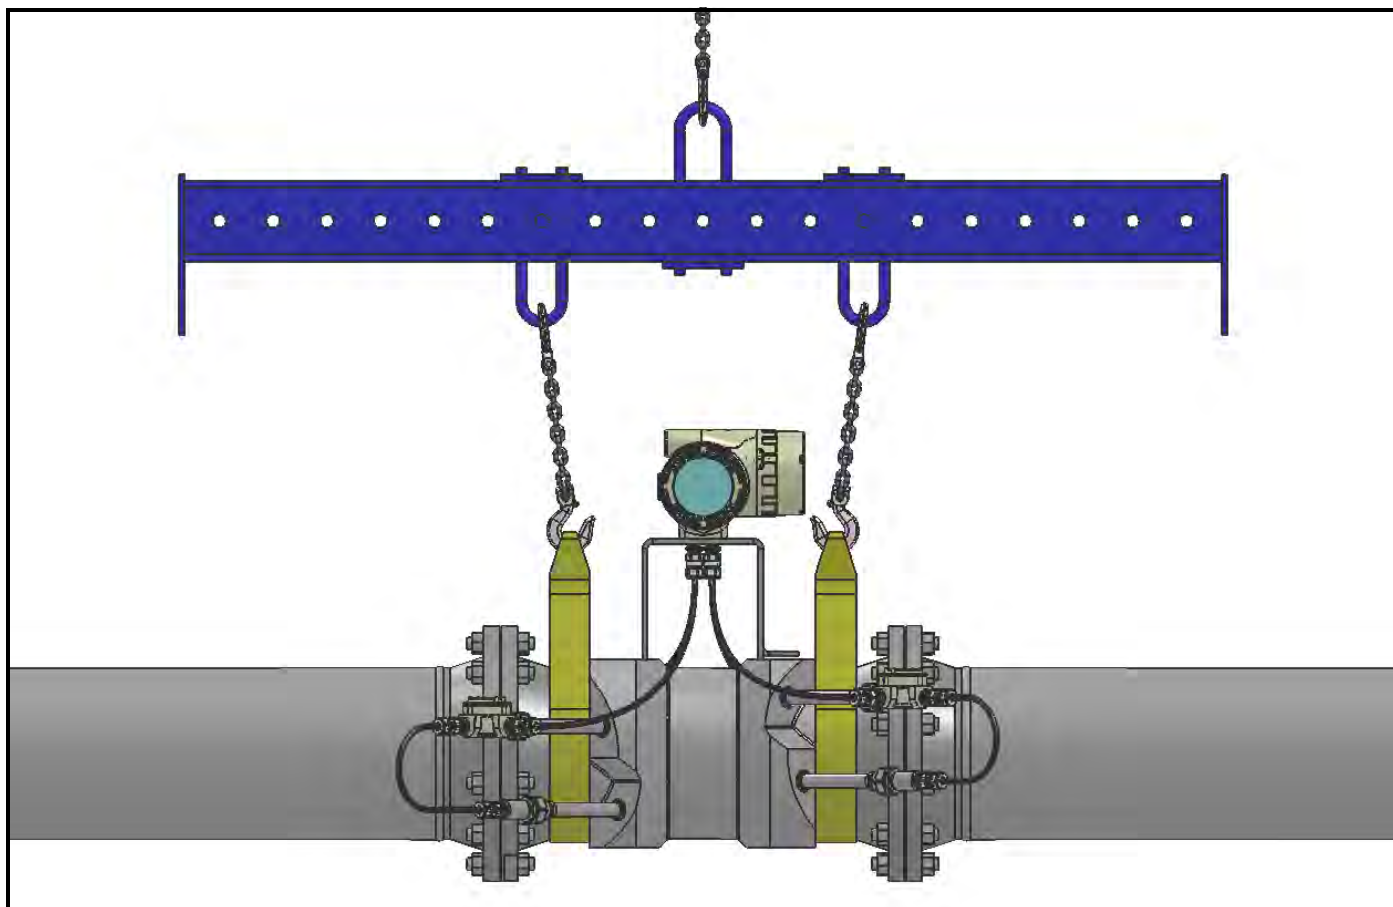

Figure 7: Lifting Strap Locations
CAUTION! To avoid possible strain, refer to the **Sentinel LNG** label for the assembly weight, use a properly-rated lifting assembly, and place the lifting straps in the indicated locations (see Figure 7 below).
- Make sure the **Sentinel LNG** is oriented with the flow transmitter in a vertical position at the top (see Figure 7 below).